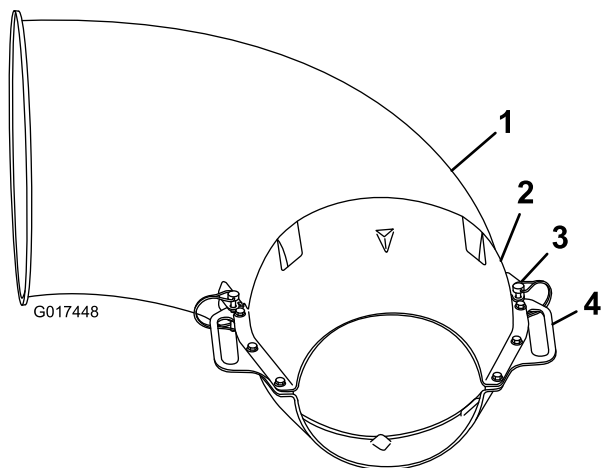

Figure 4
2. Insert the hitch pins through the holes in the attachment brackets and the handles to secure the nozzle extension to the nozzle end (Figure 4).